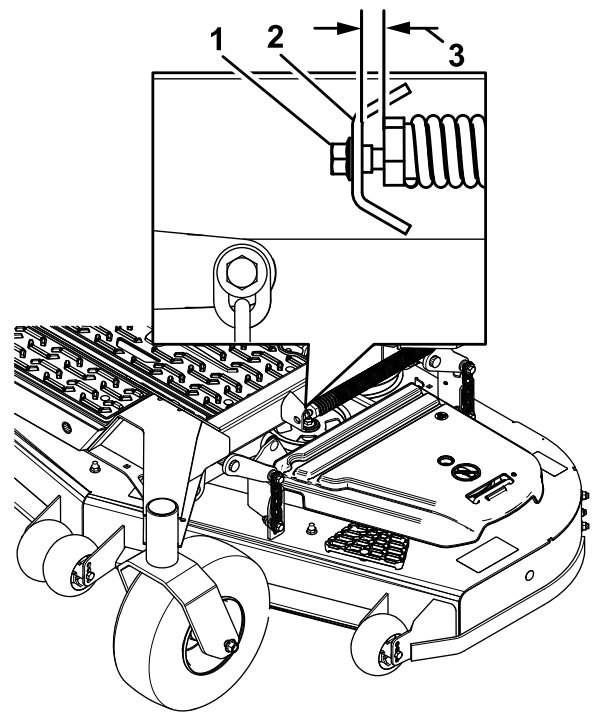

Figure 85
10. Slowly loosen the adjusting screw on the lift-assist spring until you can remove the screw (Figure 85).